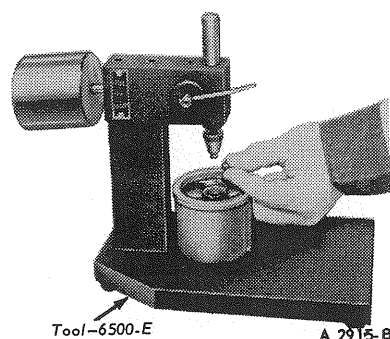

FIG. 8 Placing Steel Ball in Valve Lifter Plunger
3. Place a 5/16 inch steel ball in the plunger cup (Figure 8).